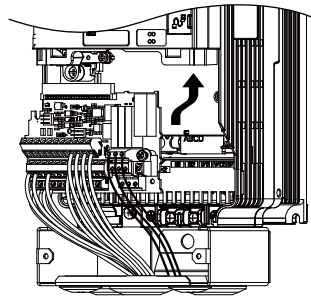

Figure 6.24 Installing the Terminal Board
- After wiring the main circuit, connect the terminal block to the regenerative unit as shown in Figure 6.24. Use the installation screw to fasten the terminal block into place.